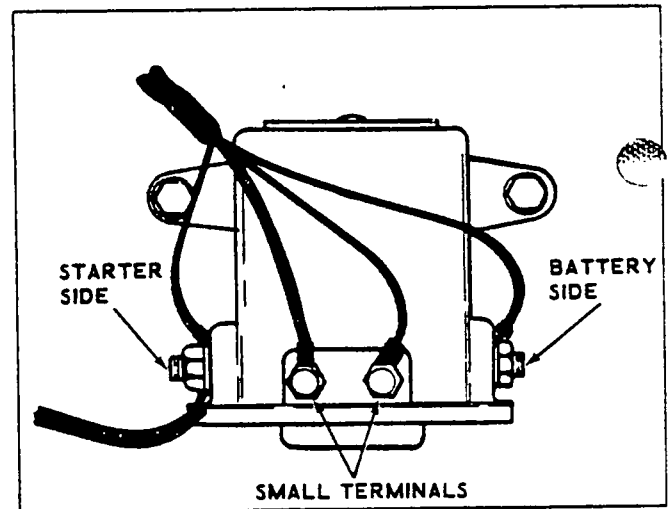

Figure 7
C.) Connect the positive lead of your meter to the starter side of the starter solenoid (figure 7) and the negative lead to